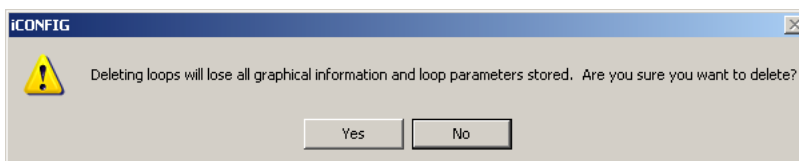

Figure 6-8 Cut message
2. Click the **Cut** button on the **Standard** toolbar. The item may be cut or a message may appear, depending on the graphic item selected. See Figure 6-8.